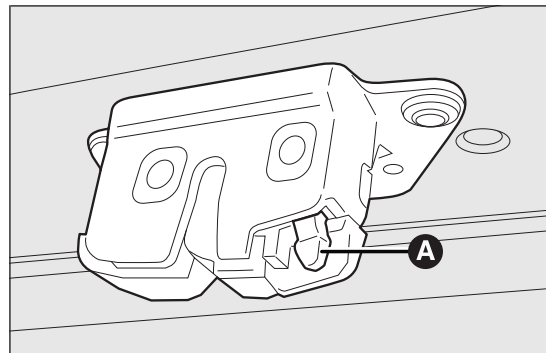

fig. 65
- ☐ from inside the boot, press lever A fig. 65 and open the tailgate.